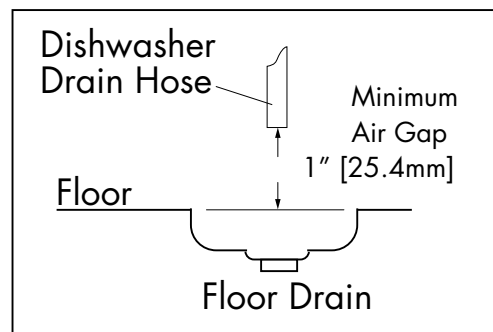

Fig. 4
1. A 1" (25.4mm) minimum air gap must be maintained between the outlet of the drain hose and the flood-level rim of the floor drain, floor sink, or any other locally approved drain receptacle (see Fig. 4).